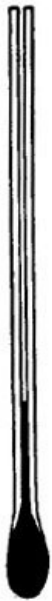
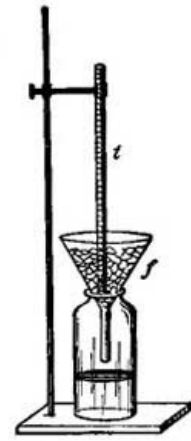

FIG. 8.—Making a thermometer.
FIG. 10.—Determining the lower fixed point of a thermometer.
**6. The Thermometer.** The modern thermometer consists of a glass tube at the lower end of which is a bulb filled with mercury or colored alcohol (Fig. 8). After the bulb has been filled with the mercury, it is placed in a beaker of water and the water is heated by a Bunsen burner. As the water becomes warmer and warmer the level of the mercury in the tube steadily rises until the water boils, when the level remains stationary (Fig. 9). A scratch is made on the tube to indicate the point to which the mercury rises when the bulb is placed in boiling water, and this point is marked  $212^{\circ}$ . The tube is then removed from the boiling water, and after cooling for a few minutes, it is placed in a vessel containing finely chopped ice (Fig. 10). The mercury column falls rapidly, but finally remains stationary, and at this level another scratch is made on the tube and the point is marked  $32^{\circ}$ . The space between these two points, which represent the temperatures of boiling water and of melting ice, is divided into 180 equal parts called degrees. The thermometer in use in the United States is marked in this way and is called the Fahrenheit thermometer after its designer. Before the degrees are etched on the thermometer the open end of the tube is sealed.